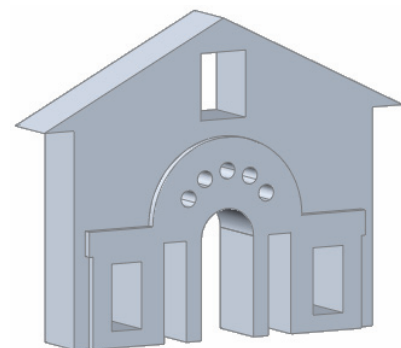

Figure 2-37
9. Union the two larger groups of solids together and then subtract the openings, as shown in Figure 2-37.